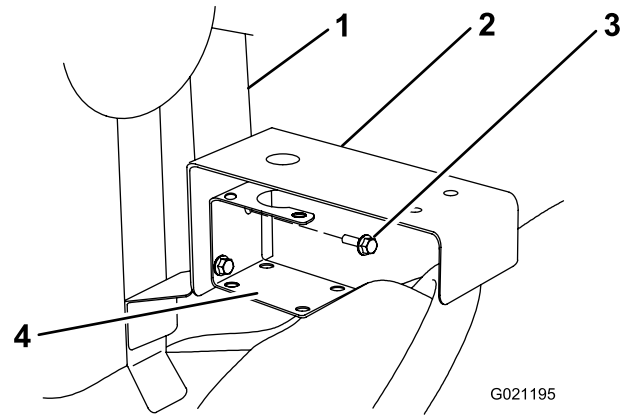

Figure 7
7. Install the control valve bracket between the supply tee bracket and the vehicle (Figure 7).
8. Secure the supply tee bracket and control valve bracket to the mounting frame using the bolts that you removed in step 6 (Figure 7).